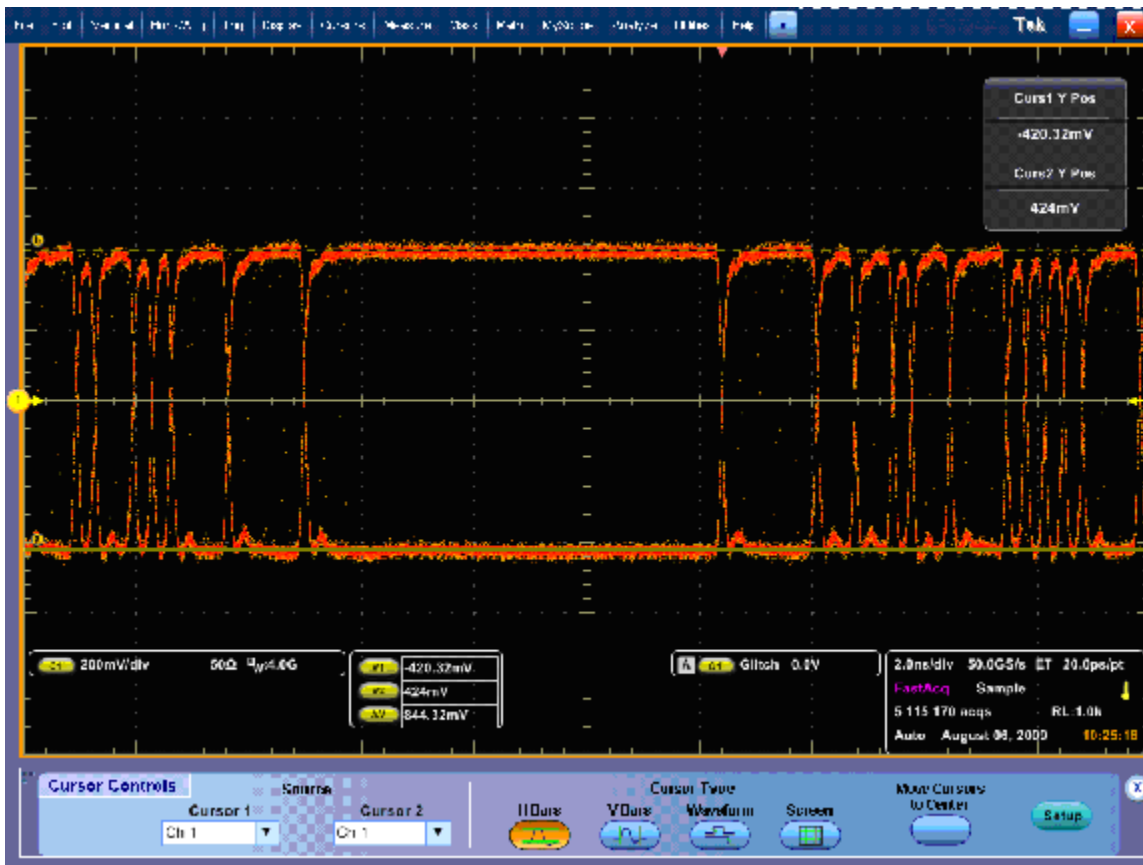

Figure 3: Serial Output at 3 Gb/s, using Glitch Trigger mode.
11. Check the signal amplitude, using the 7 ns wide region without transitions. The amplitude should be very similar to that observed in step 4. Outside of the 7 ns region, check that the eye is open between transitions. (See Figure 3.)